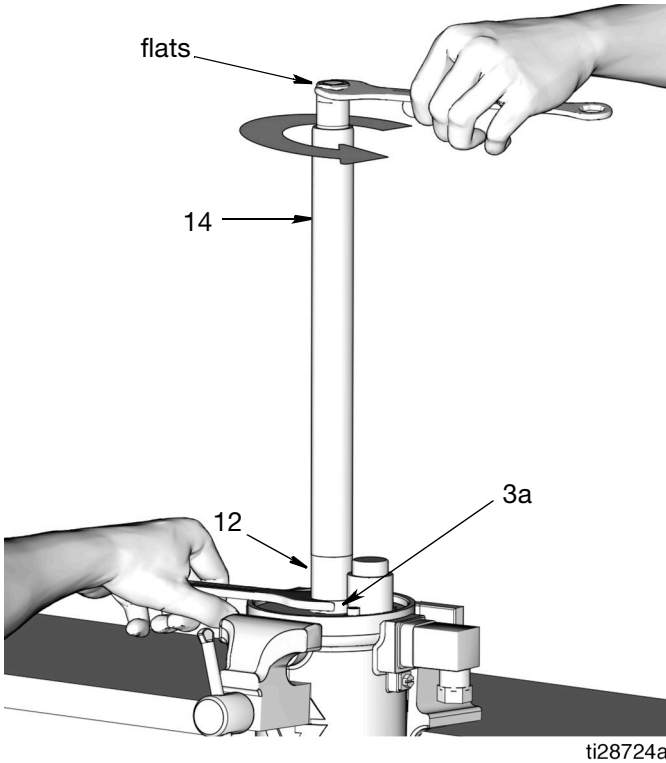

FIG. 16
13. Securely hold the nut (3a), located on the bottom of the pump cylinder (12), in place with a wrench. Secure a second wrench on the flats of the outlet tube (14). Turn the outlet tube counter-clockwise to loosen and remove it from the pump cylinder (12) (FIG. 16).